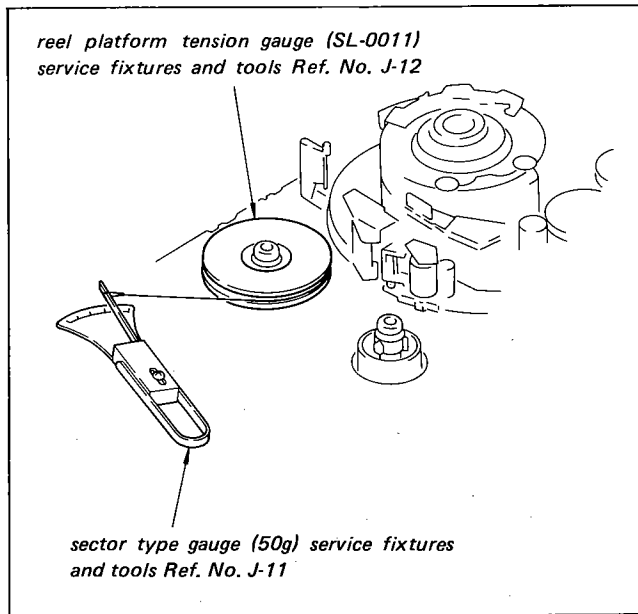

Fig. 3-33. How to check the soft brake
- 2) As shown in Fig. 3-33, set a tension gauge (SL-0011) on the S reel platform.